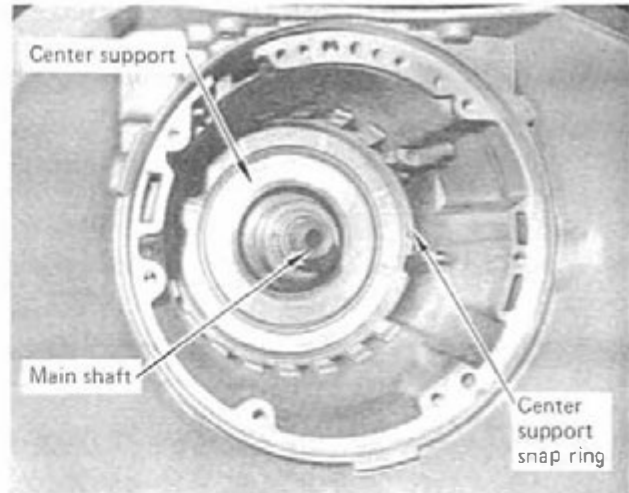
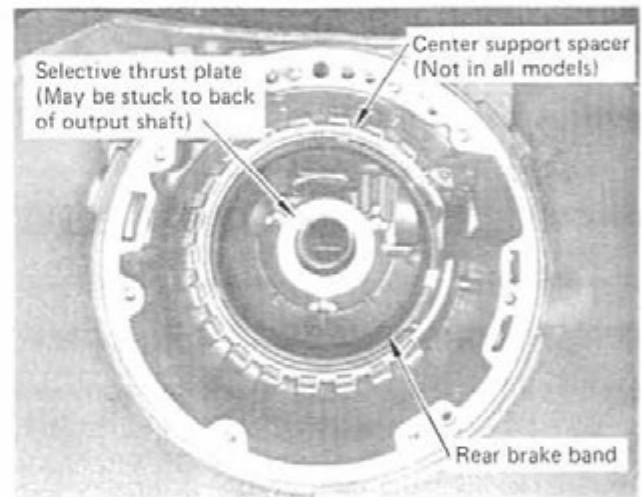

FIGURE 13
FIGURE 14
STEP 16. Remove the center support to case snap ring. (See Fig. 13) Grasp the center support and pull it out. When you remove the center support, check the back side for a bearing race and inside the recess for a plastic or bronze thrust washer. (See Fig. 14) Grasp the main shaft and remove the entire planetary geartrain assembly. Set them aside.
STEP 17. Remove the output shaft to case thrust washer and selective thrust plate. (See Fig. 14) Note: They may be stuck to the back of the output shaft. Some models have a center support spacer. This is a thin snap ring located just behind the center support in the case. If your transmission has one, remove it. Remove rear brake band.